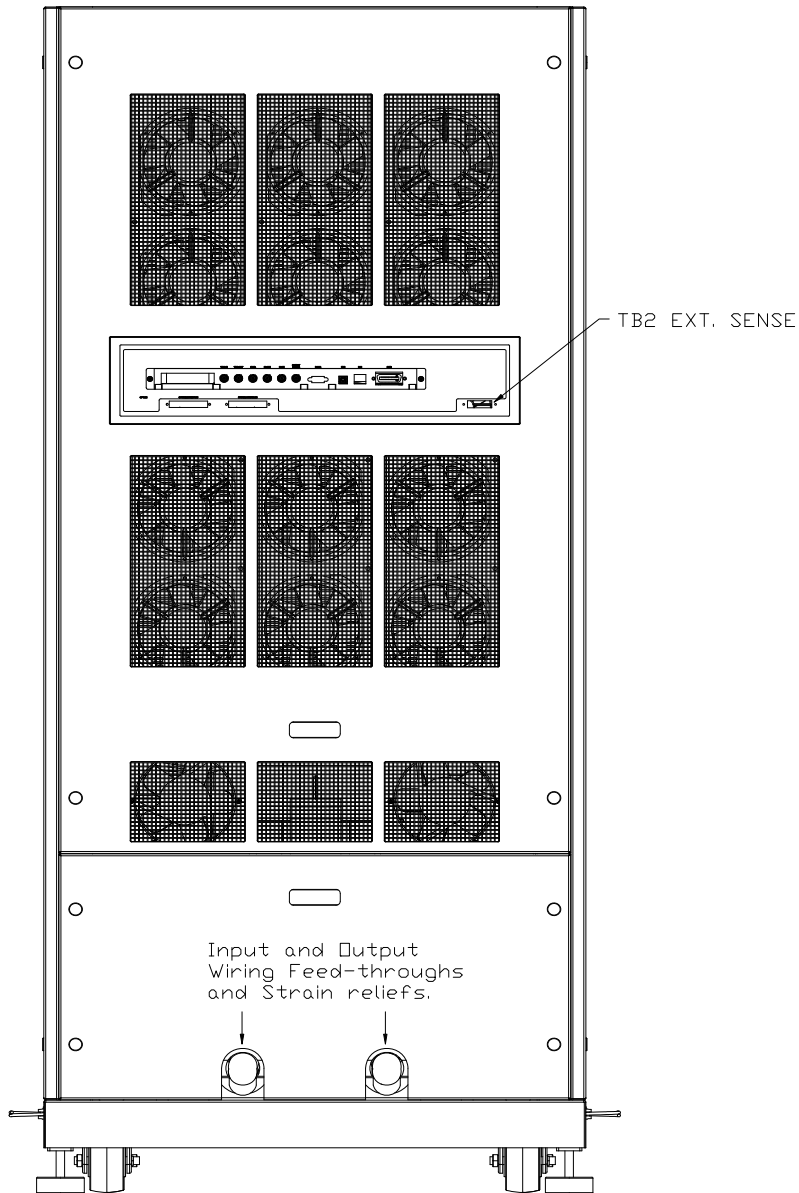
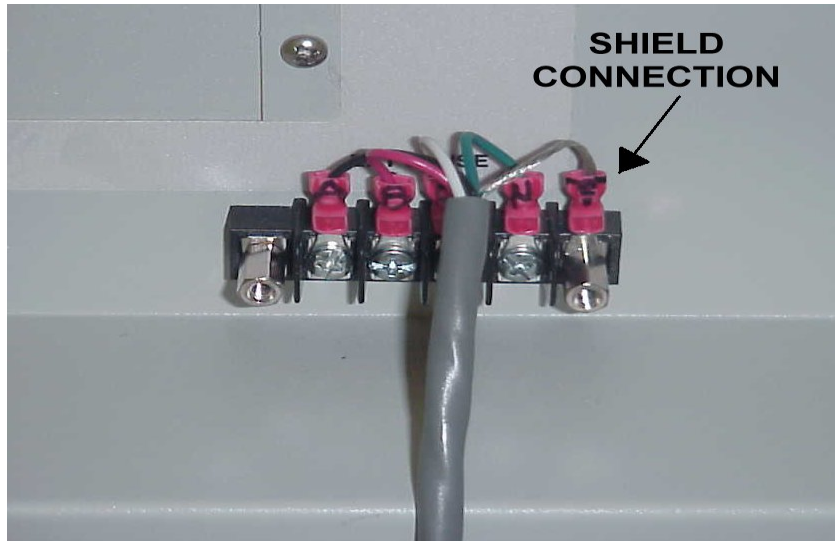

Figure 4-4: BPS75-3 or BPS90-3 Rear Panel – External Sense connector location.
Figure 4-5: External sense cable shield connection to chassis ground
No wiring for AC input connections is provided with the BPS Series and must be provided by the end user or installer. Input wiring should be entered through the right hand side (when facing the back of the BPS cabinet, see Figure 4-4) wire access opening located at the rear bottom of the BPS chassis. A wire channel (marked as [2] in figure below) is provided below the input transformer to allow the input wiring to be routed to the front of the unit where the connections are to be made.
The external sense inputs allow the power system output voltages to be monitored directly at the load and must be connected at TB2 when the sense is programmed for external. The external sense input does not have to be connected when Internal Sense is programmed. The external sense wires are to be connected to TB2 on the rear panel and should be run using a twisted shielded cable. See Figure 4-4 for location of TB2 and Figure 4-5 for shield connection detail.
**Note:** *For External Sense connection, a shielded cable MUST be used with the shield connected to chassis ground at the Ext. Sense connector. (See Figure 4-5).*